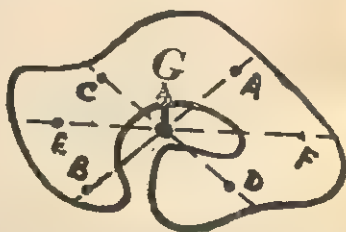

Fig 2.4. Use of cotton thread to join  $AB$ ,  $CD$  and  $EF$ , if  $G$  is outside.
**Note.** If the lamina is of such a shape that the centre of gravity does not lie on it (See Fig. 2.4), join  $AB$ ,  $CD$  and  $EF$  with cotton thread held on by plasticine or quickfix.